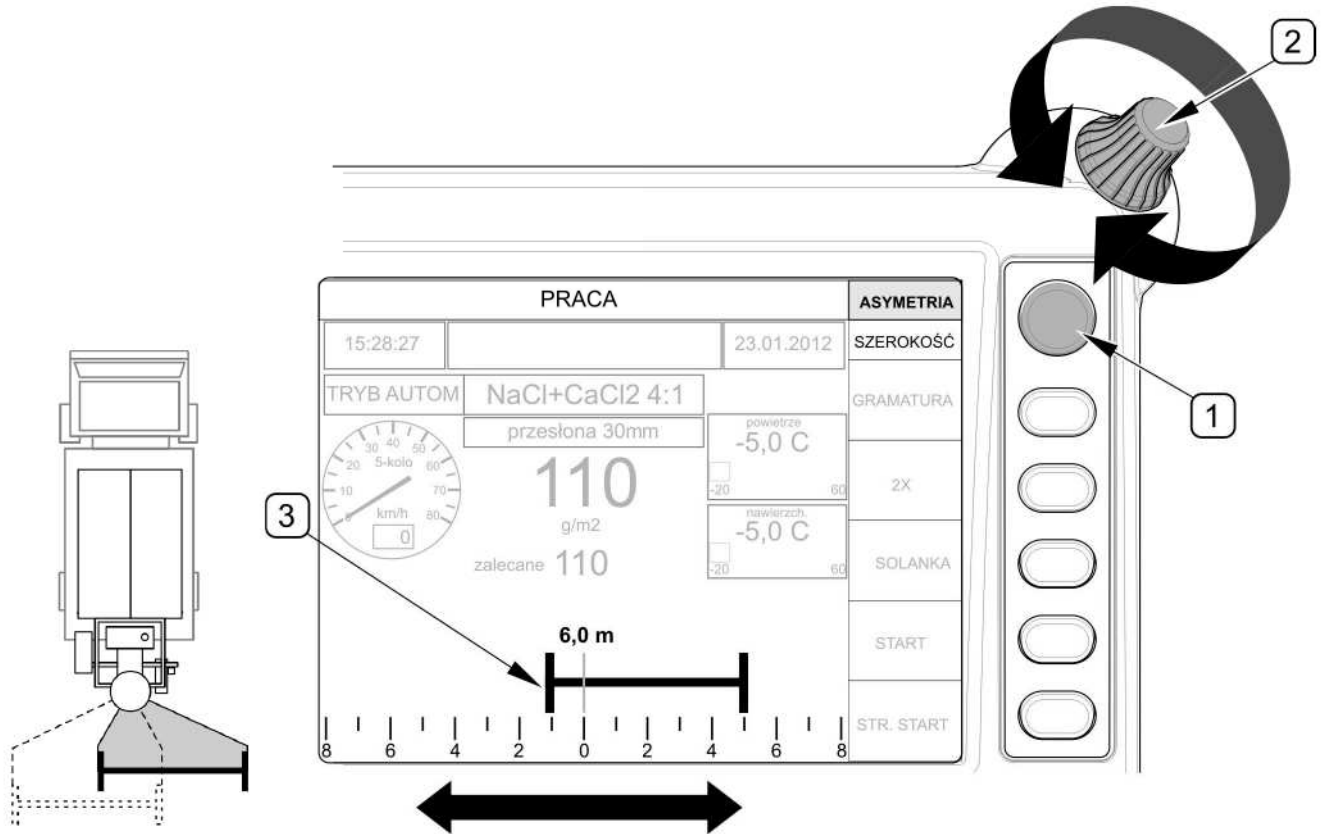

FIG. 4.29 Changing asymmetry of spreading
- Highlight "WIDTH" function by means of push-button (1)
- Turn knob (2) to set a required width (3) from 2 m ÷ 12 m
To change asymmetry of spreading, highlight "ASYMMETRY" field on working page ("OPERATION") by means of push-button (1). Turn knob (2) to move current spreading width to the right or to the left (FIG. 4.29).